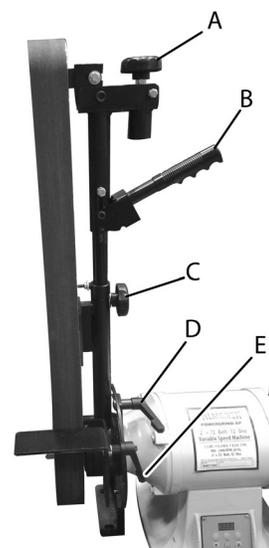

Figure 5. Handle identification
1. Pull down on handle B from Figure 5, into locking position. This will lower the idler wheel, to create slack on the belt.
3. Unlock Handle B (Figure 5), to tighten the belt.
4. Using your hand to rotate the wheel, adjust the belt tracking using knob A, shown in Figure 5.